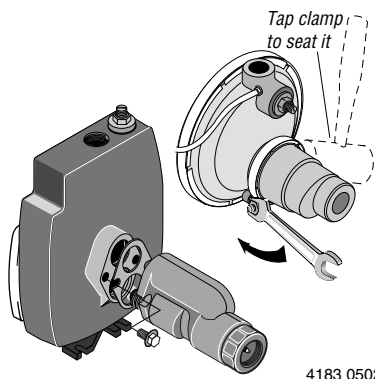

Figure 4: Mount Ejector – Shallow Well
- Step 3. Install ejector kit FP4855 with a Series 4200, or kit FP4875 with a Series 4300 pump (kits are sold separately). Follow the instructions provided with the kit. Be sure to align the venturi with the top hole on the front of the pump (see Figure 4).
- Step 2. Install ejector kit FP4855 with a Series 4200 pump, or kit FP4875 with a Series 4300 pump (kits are sold separately). Follow the instructions provided with the kit. Align the venturi with the top hole on the front of the pump (see Figure 4).